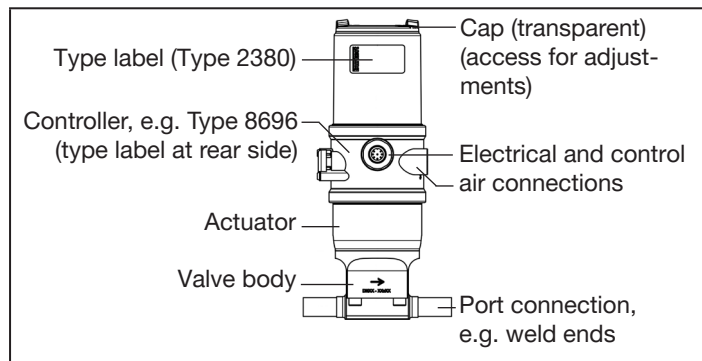
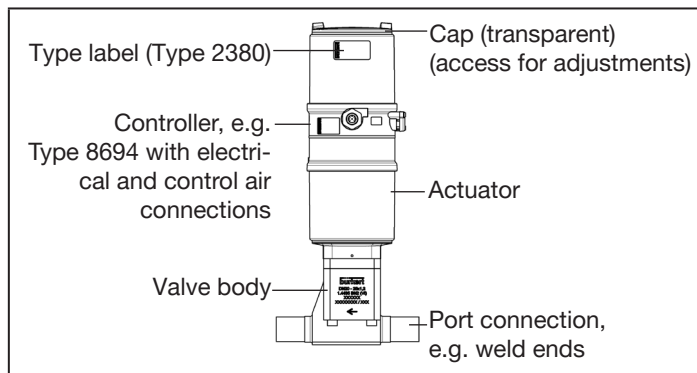

Fig. 1: General structure of Type 2380-LA (compact actuator)
Fig. 2: General structure of Type 2380-LB (ELEMENT actuator)
**For connections** (compare „Fig. 1“ and „Fig. 2“): see also chapter „8. Installation“ at page 11, where all connections are described.
Type label for Type 2380 (by the cap of the device, see „Fig. 1“ or „Fig. 2“).